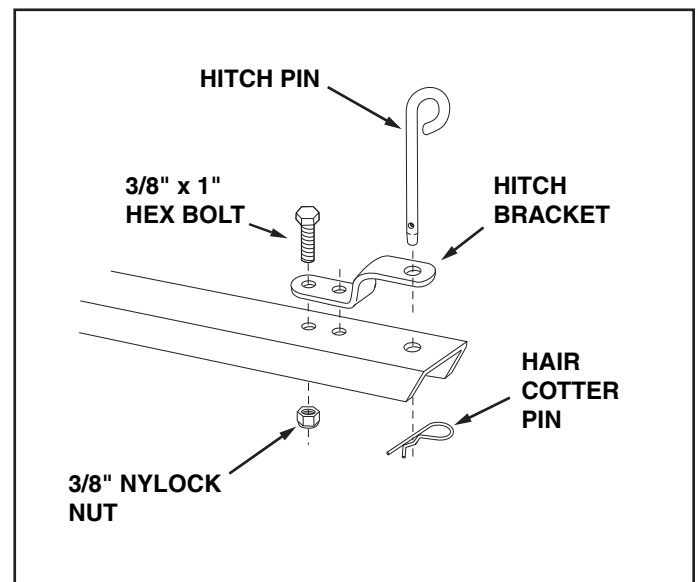

FIGURE 3
5. Assemble the hitch bracket to the drawbar tongue using two 3/8" x 1" hex bolts and 3/8" nylock nuts. **Tighten**. See figure 3.
6. Assemble the hitch pin to the tongue and hitch bracket and secure it with the hair cotter pin. See figure 3.